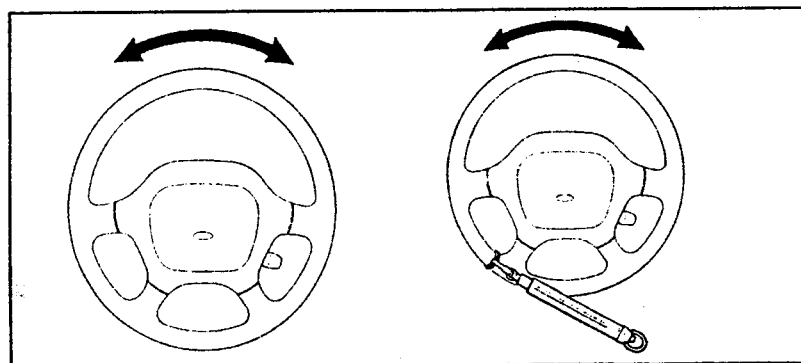

Fig. 12.1. — Checking the steering wheel play (see text).
- Grip the steering wheel rim at the top and move it to and fro as shown in Fig. 12.1. If the movement is more than 30 mm before the front wheels are beginning to move, check the track rod ball joints for excessive play. There could also be excessive play in the steering shaft connection.
- If no excessive play can be detected, there is one more check you can carry out, but you will need a spring scale. Switch off the engine and attach the spring scale to the steering wheel spoke as shown in Fig. 12.1. With the wheels still in the straight-ahead position, apply a load of 0.5 kg (1 lb.) and then move the steering wheel as in-